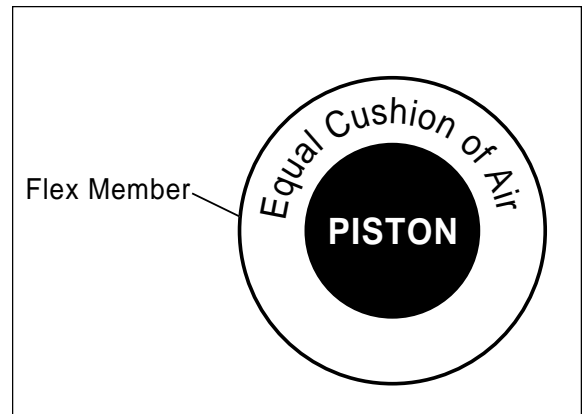

Figure 8
2. Use the slotted adjustment in the lower bracket to correctly align the air spring between the upper and lower brackets. This can be accomplished by lightly tapping it inboard or outboard for proper alignment. There should be a symmetrical cushion of air around the base of the air spring when correctly positioned (Figure 8).